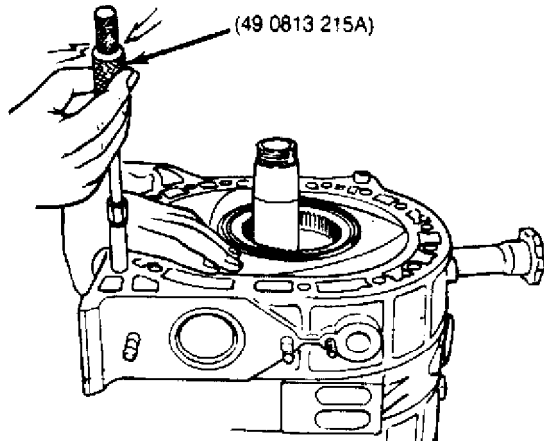

Fig. 4: Extracting Tubular Dowels from Engine Hold housing down with hand.
8) Attach dowel puller (49 0813 215A), and pull tubular dowels off rear rotor housing. See Fig. 4. Hold rotor housing by hand to keep it from moving up, and remove rear rotor housing. Use caution to avoid dropping apex seals and side pieces of rear rotor. Remove seals and "O" ring from front side of rear rotor housing.